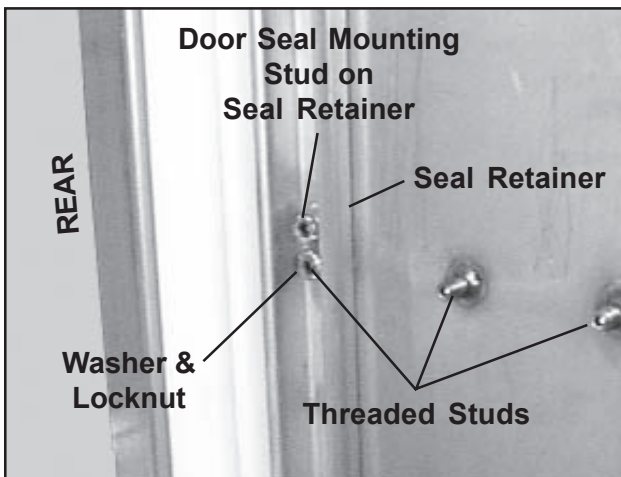

Figure 24. Washers and Locknuts on Threaded Studs
5. Slide the seal retainer upward as far as possible, and place washers and locknuts on these three threaded studs (Figure 24). Fasten them only finger-tight.
6. A door seal mounting stud is welded at about the center of the seal retainer (Figure 24). Place a washer and locknut on this stud but fasten it only finger-tight.